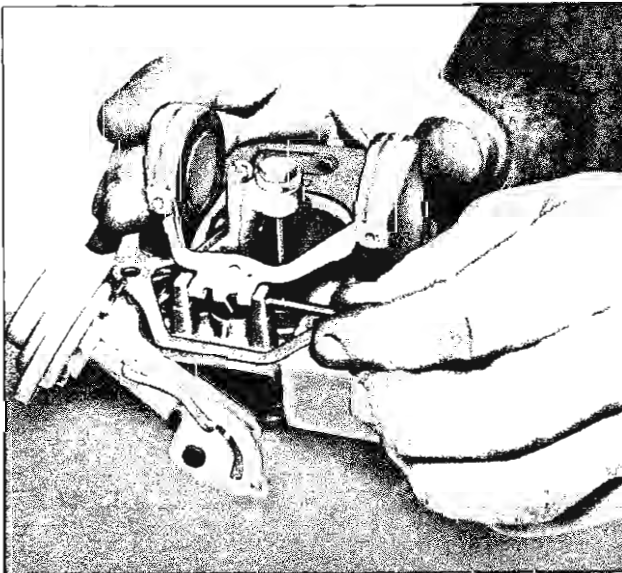

Fig. 11—Removing Float
- 7. Place cover up-ended on flat surface and remove float hinge pin, floats and float needle (fig. 11).